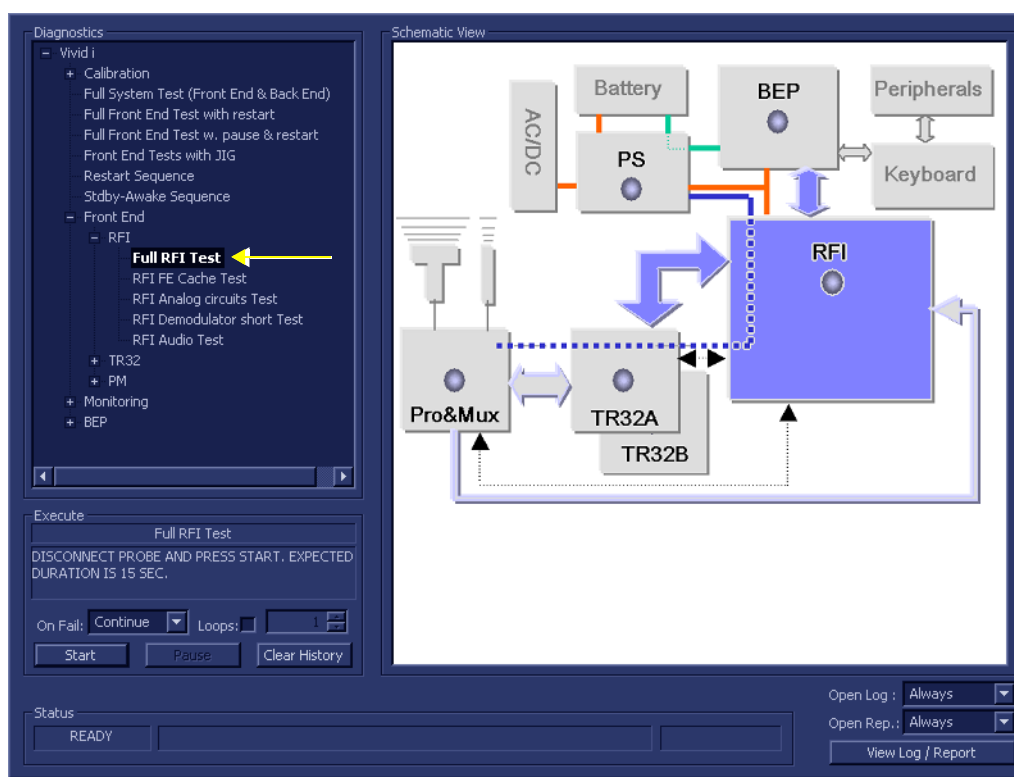

Figure 7-11 Full RFI Test
- In the *Diagnostic Test* window, trackball to **Full RFI Test** in the list of *RFI* tests available for selection from the Diagnostic Test Tree (see Figure 7-11 below) and press **Set**. The Full RFI Test name is displayed under *Execute*; the relevant system component to be tested is highlighted light blue in the Schematic View (RFI), as shown below: